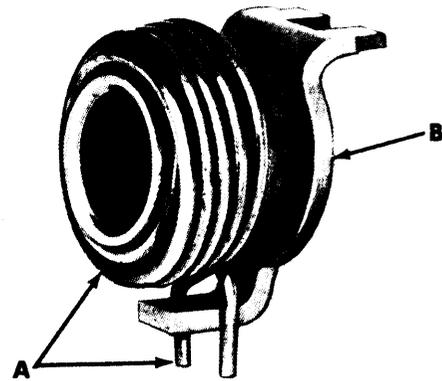
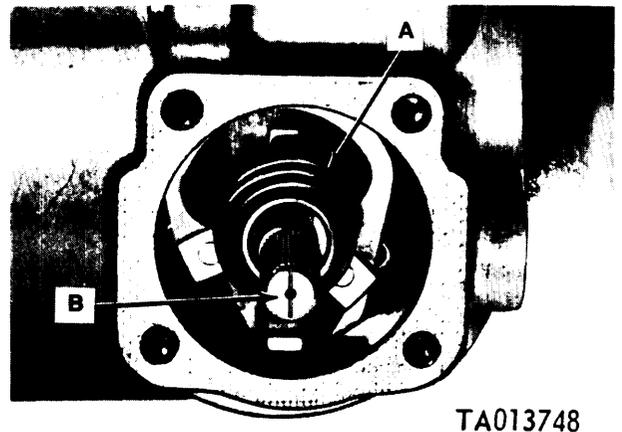

Figure 3-79. Assembling operating shaft spring and plate (code A pumps).
Figure 3-80. Installing operating shaft spring and plate on operating shaft (code A pumps).
(10) Refer to figure 3-79. Install operating shaft spring (A) on operating shaft spring plate (B). Refer to figure 3-80. Install operating shaft spring and plate (A) on operating shaft (B). Make sure the spring engages the tang on the operating shaft.